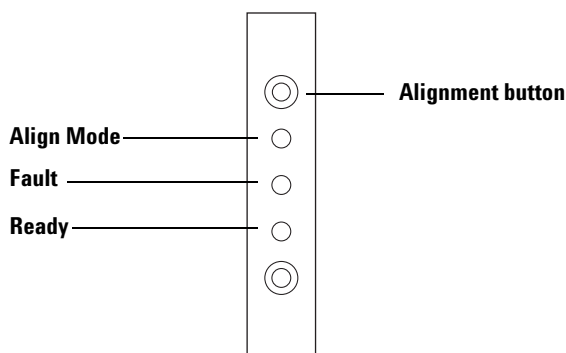

Figure 72 Aligning the injector
- 4 Use a long, narrow object to press the recessed Alignment button above the indicator lights. Avoid contact with anything behind or around the button inside the recessed hole (Figure 72).